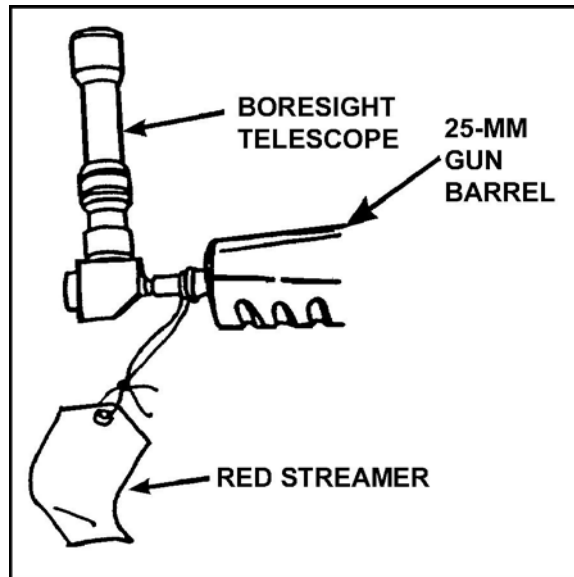

Figure 4. Range control knob.
8. Turn the range control knob on the ISU to the estimated range (Figure 4).